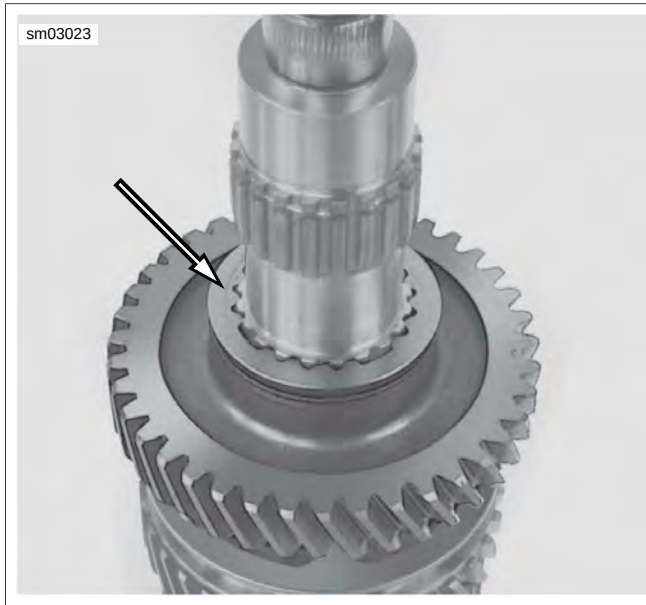

Figure 6-21. Third Gear Lock Ring
See Figure 6-21. Note the direction that the 3rd gear locking ring is installed.
- See Figure 6-21. Place countershaft 3rd gear lock ring over securing segments.